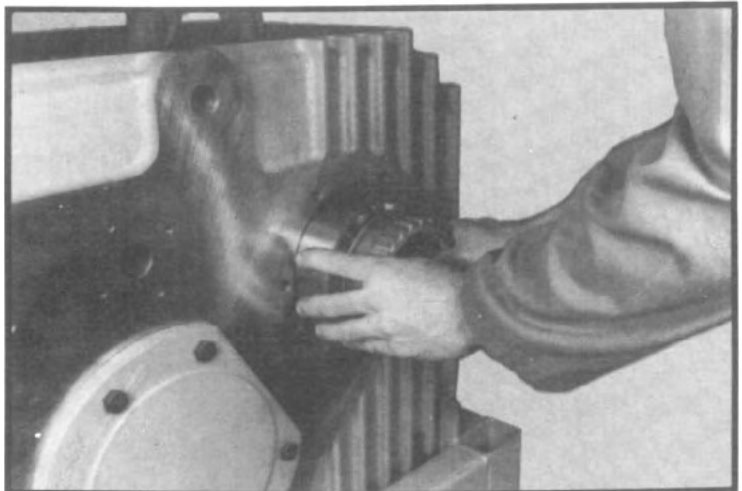

Fig. 34
- 1.9 Supporting weight of underdrive gear, remove clutch gear with bearing from front of shaft. (See fig. 34.)